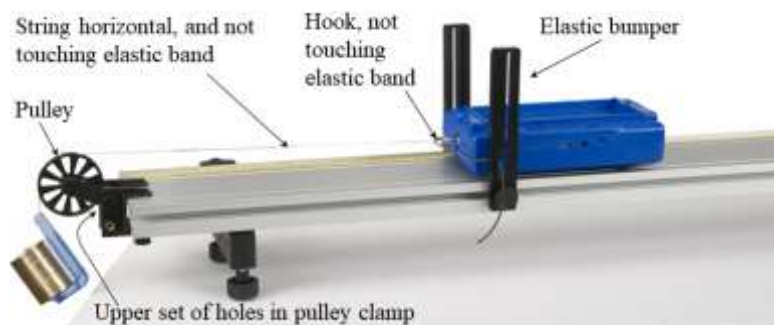

Figure 3: Calibrating a Force Sensor
- To set up for the calibration of the force sensor, first attach a Hook to the Smart Cart. Place the cart on the track against the Elastic Bumper. See Figure 3.
- Attach a string to the hook, and pass the string over the pulley. Attach a mass hanger to the other end of the string so it hangs below the pulley. Add 270 grams to the 5-gram hanger to make a total of 275 grams. See Figure 3.
- In Capstone, open Calibration in the left toolbar. Then select: Force as the type of measurement; only for the sensor for the cart now set up as in Figure 3 (Red or Blue); Two Standards (2 point) calibration.